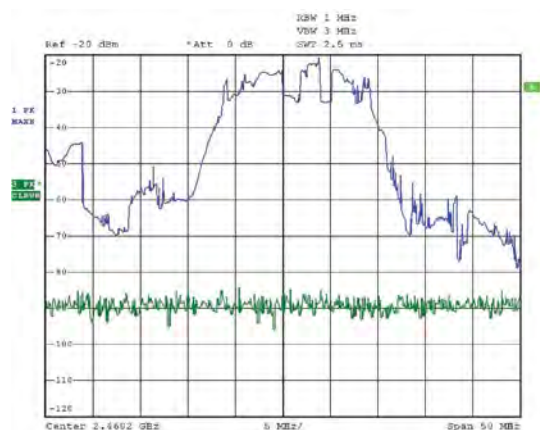
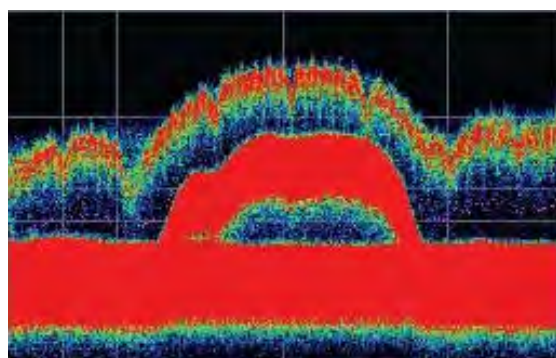

Figure 2: Display of a traditional swept spectrum analyzer
Figure 3: Real-time signal analyzer with a DPX display
Compare the Figure 2 on page 68 display of a traditional swept spectrum analyzer figure and that of a Figure 3 on page 68. The signal captured is a typical WLAN interchange between a nearby PC and a more-distant network access point (AP). The laptop signal is nearly 30 dB stronger than the AP's signal because it is closer to the measuring antenna.
The Figure 2 on page 68, uses line traces that can show only one level for each frequency point, representing the largest, the smallest or the average power. After many sweeps, the Max Hold trace shows a rough envelope of the stronger laptop signal. +Peak detection was selected for the other trace in an attempt to capture the weaker but more frequent AP signal, but the bursts are very brief, so the likelihood of seeing one in any particular sweep is small. It will also take a long time to statistically capture the entire spectrum of a bursted signal due to the architecture of the swept spectrum analysis.
The Figure 3 on page 68, reveals much more insight on the same signal. Since it is a bitmap image instead of a line trace, you can distinguish many different signals occurring within each update period and/or different version of the same signal varying over time. The heavy band running straight across the lower third of the graph is the noise background when neither the laptop nor the AP is transmitting. The red lump of energy in the middle is the ON shape of the AP signal. Finally, the more delicate spectrum above the others is the laptop transmissions. In the color scheme used for this demonstration ("Temperature"), the hot red color indicates a signal that is much more frequent than signals shown in cooler colors. The laptop signal, in yellow, green and blue, has higher amplitude but doesn't occur nearly as often as the AP transmissions because the laptop was downloading a file when this screen capture was taken.